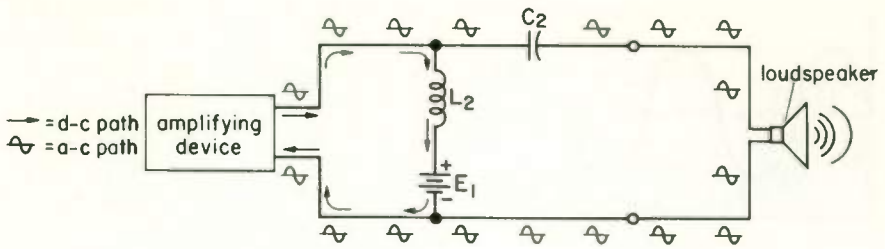
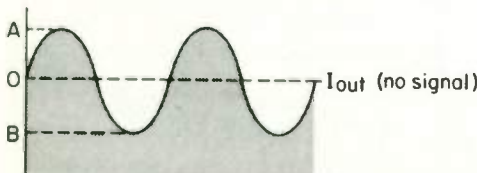
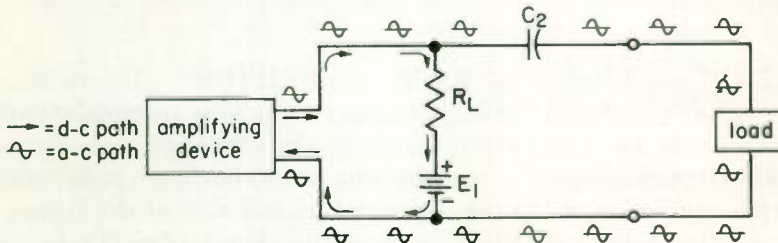

Fig. 21 Basic amplifier output circuit.
Fig. 22 Composite output current waveform.
Fig. 26 The output circuit with a resistor.
13 THE BASIC AMPLIFIER OUTPUT CIRCUIT . . . The basic amplifier output circuit also has both d-c and a-c currents, as shown in Fig. 21. E_1 is a d-c potential required for the operation of the amplifying device, as was explained with reference to Fig. 16. The current flowing through the amplifying device will have the waveform shown in Fig. 22.
The variations in the output current follow the changes in R_L , Fig. 16, caused by the a-c input voltage. When R_L is decreased (by a positive input voltage), the output current increases from 0 to A. Likewise, when the output current decreases from 0 to B, the R_L increase (by a negative input voltage) causes it. The output current at point 0 is that value which will flow when the input signal is zero. As seen in Fig. 22, the output current variations "ride" on the zero-signal output current.
You have learned how a pulsating current, such as shown in Fig. 22, is equal to a d-c current and an a-c current combined. The a-c cur-
rent in Fig. 22 represents the signal, which we wish to go to the loudspeaker, Fig. 21. Capacitor C_2 in Fig. 21 blocks the d-c component of the composite output waveform while allowing the a-c signal component to go to the loudspeaker. Inductor L_2 passes the battery current (that is, the d-c component) to the amplifying device, but keeps most of the a-c component from passing through the battery and thereby forces the a-c component through C_2 to operate the loudspeaker. Study carefully the a-c and d-c component paths in Fig. 21.
2. In Fig. 21 a signal is applied to the input of the amplifying device, but the output from the loudspeaker is inaudible. What are two possible causes of the trouble? Assume the amplifying device and speaker are working properly.
Resistors can also be used to replace inductors in the output circuits of amplifiers. Figure 26 shows the amplifying device with L_2 of Fig. 21 replaced by a resistor R_L . Just as in the input circuit, R_L must be made large enough that it presents a fairly high impedance to the a-c output of the amplifier, thereby forcing most of the output signal to take the easier path through C_2 . Again the resistor has the property that it will also present impedance to the d-c supply voltage E_1 . This fact must always be taken into account, since both tubes and transistors must draw d-c current in their output circuits. This current will